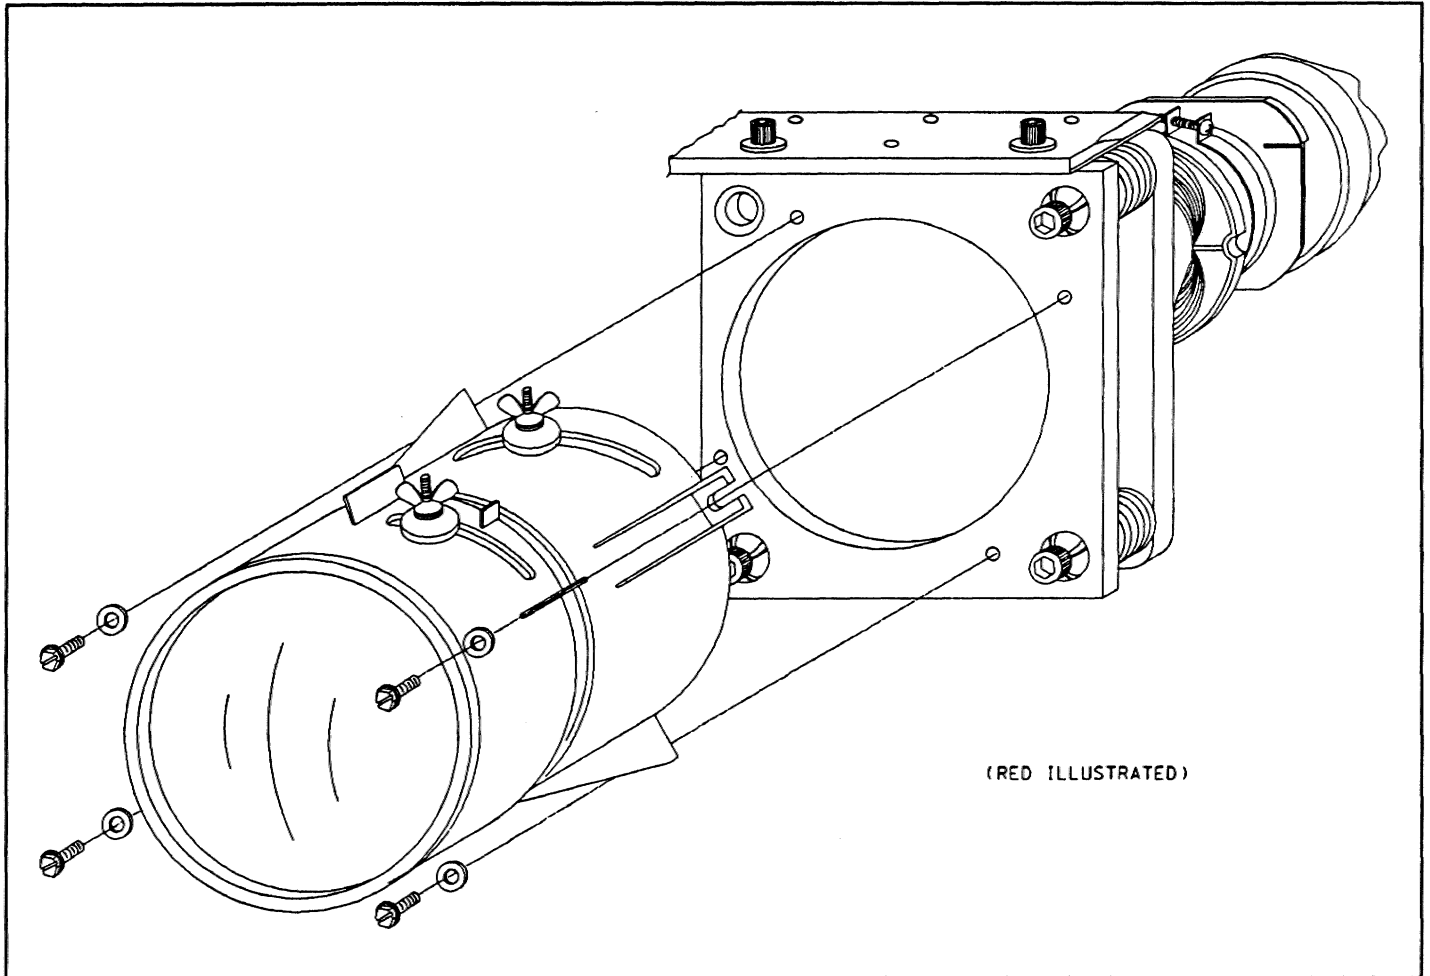

FIGURE 5-14. *Lens Removal*
- c) Remove the 4 hex head screws (and washers) securing the lens to the lens mounting plate. See Figure 5-14.